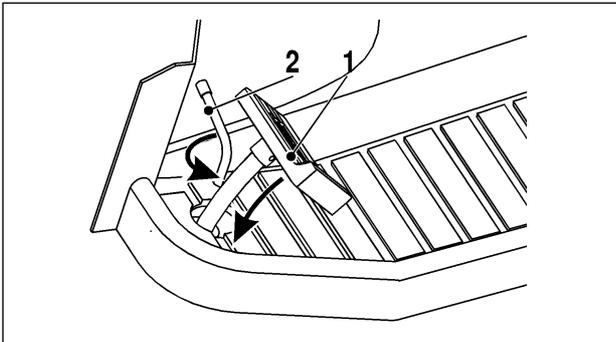

Fig. 14
3. Depress fully, and hold the brake pedal (fig. 14, pos 1).
BRAKE (FIG. 14)